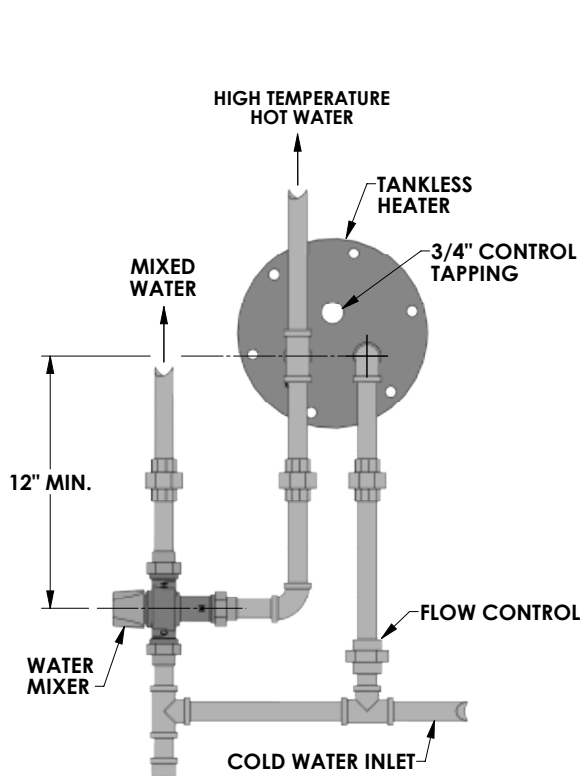

Figure 3.8: Tankless Coil Piping, Water Boiler
1. If a tankless coil is used (item 18 or 22), install as pictured. On water boilers, install in opening in front section. On steam boilers, install in opening in rear section. For suggested piping of tankless water heaters refer to Figures 3.8 and 3.9.